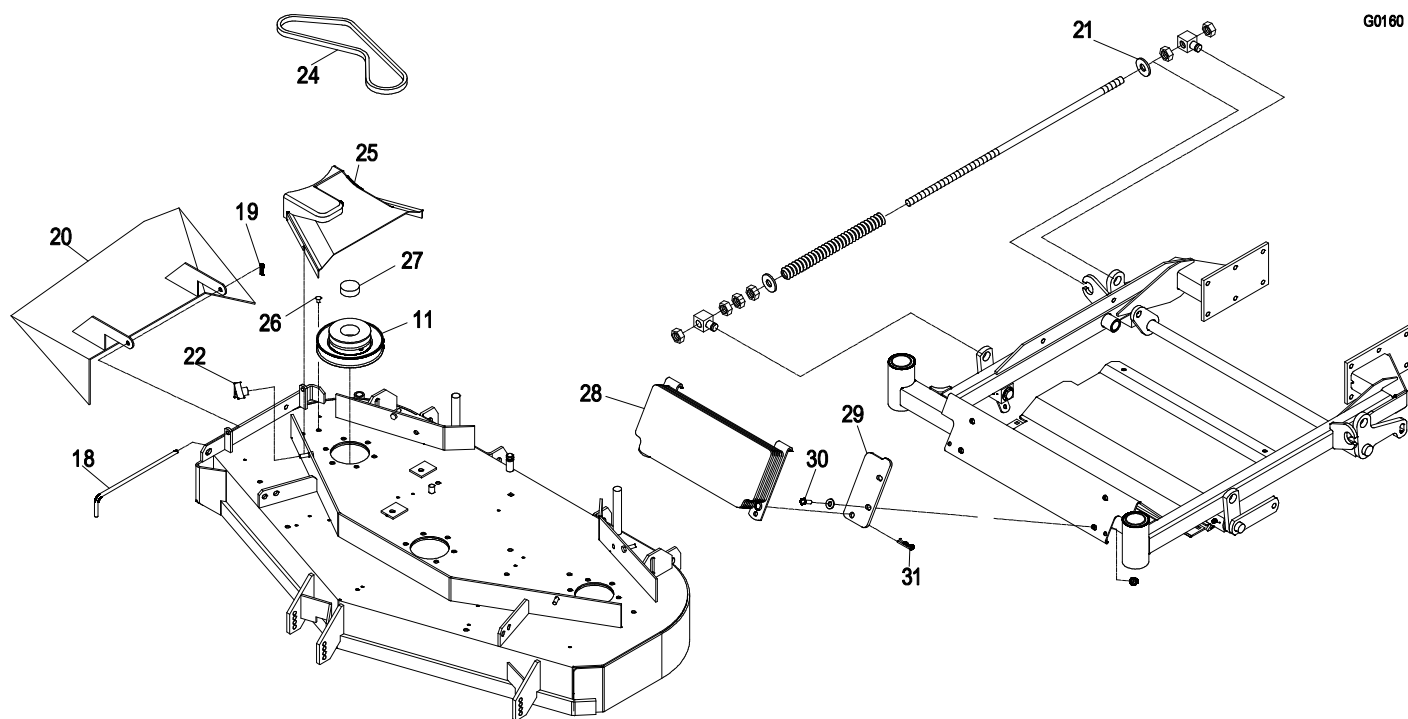

FIGURE 2
- j) Install the new belt cover (Item 25) secure with the two belt shield knobs (Item 22) as shown in Figure 2.